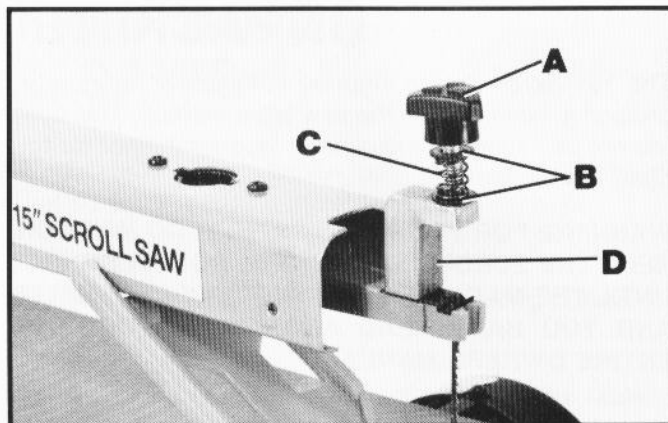

Fig. 5
Assemble the locking screw (A) Fig. 5, two 1/4-inch, flat washers (B) and spring (C) to blade holder clamp (D) as shown. **NOTE:** The screw, spring and washers are used only when cutting with flat-end blades; however, they can be assembled to the machine regardless of the type of blade being used, either pin-type or flat-end blades. If you prefer to use a flat-end blade in place of the pin-type blade which is shipped assembled to the machine, refer to section "Installing And Replacing Flat-End Blades."